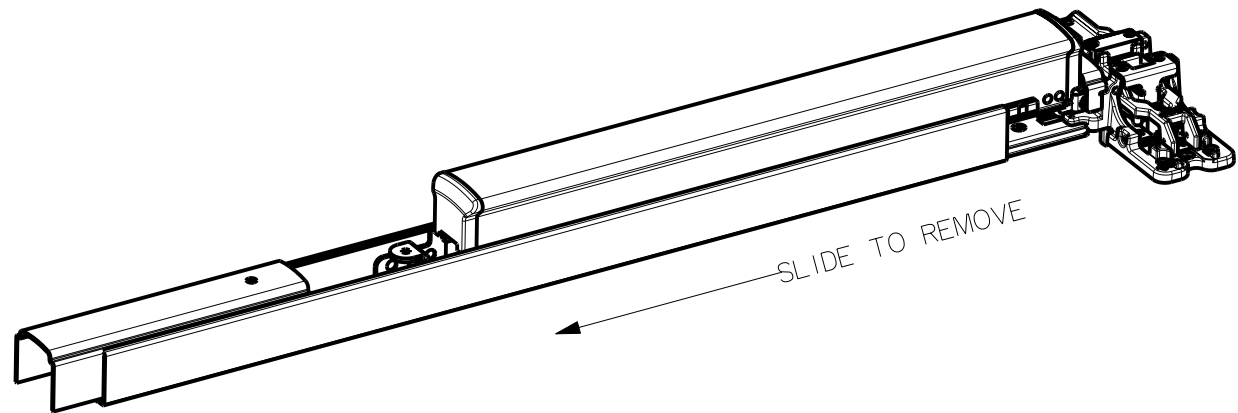

FIG. 3
- 1 - Remove the 2 channel screws (Fig. 1) Loosen set screw (FIG 2) and slide device channel away from chassis. (FIG. 3)